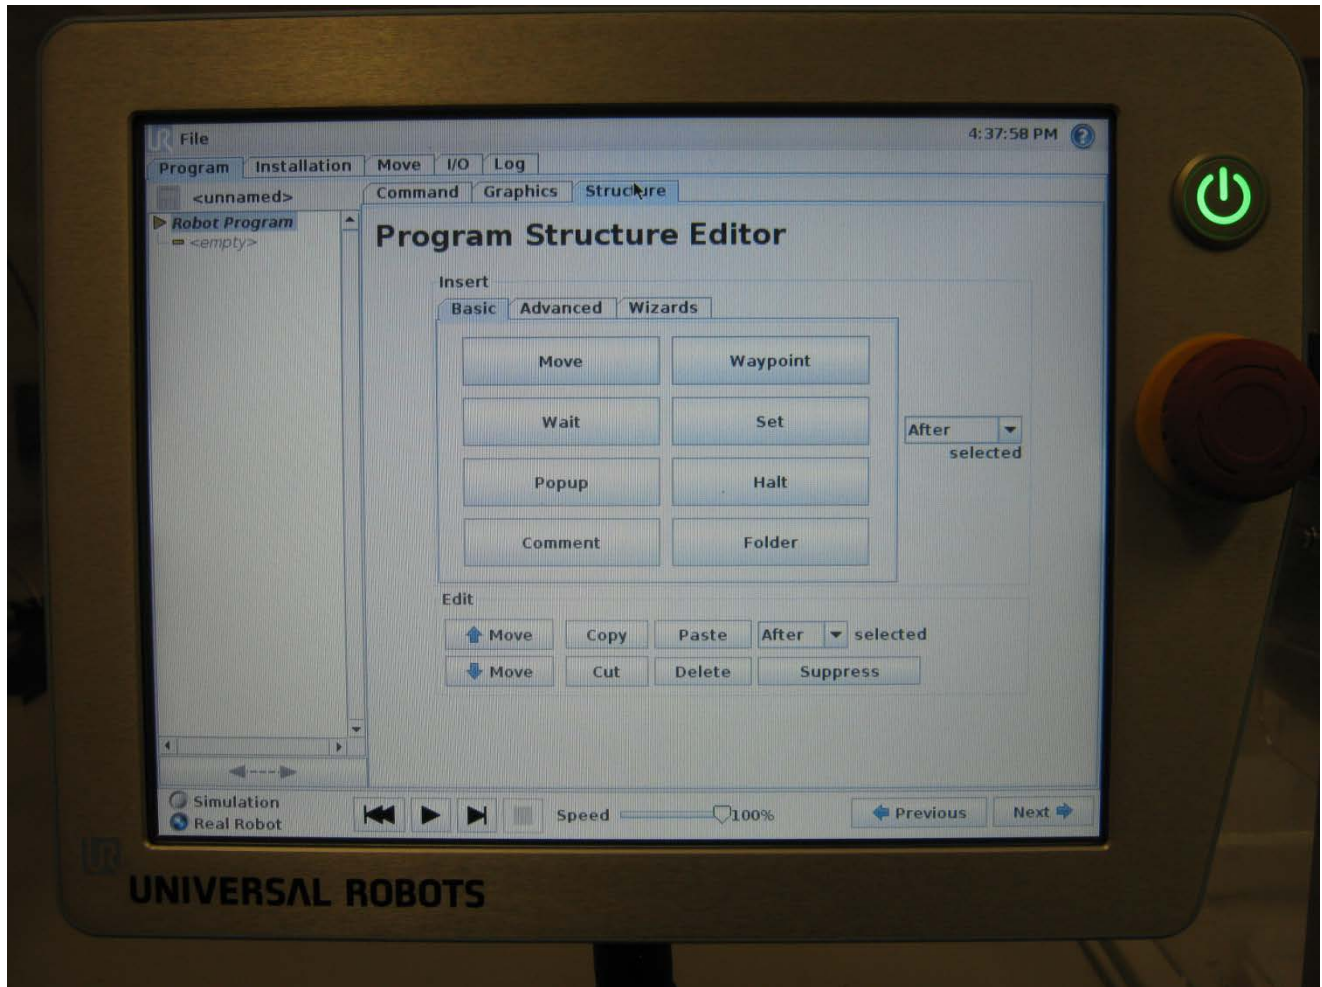
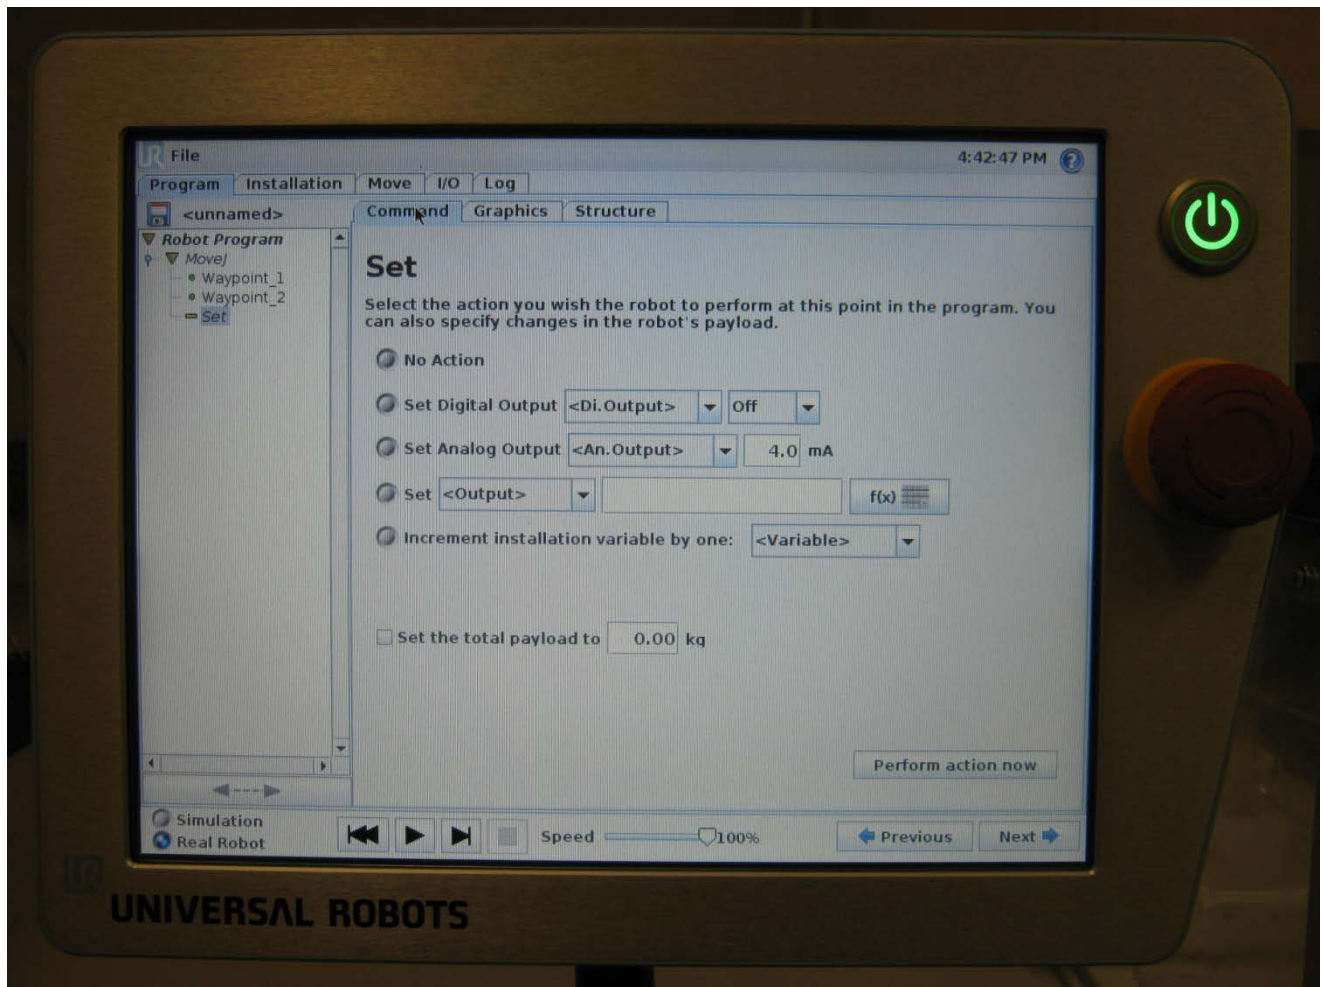

Figure 11 The Program Structure tab
Figure 14 The Command tab for the Set function
4. Press the "Structure" tab. The following screen will appear (Figure 11).
12. We now want to expand the bellows gripper to pick up the object. To do this press the “Structure” tab and press the “Set” button (see Figure 11), then go to the “Command” tab. A screen similar to Figure 14 will be shown.